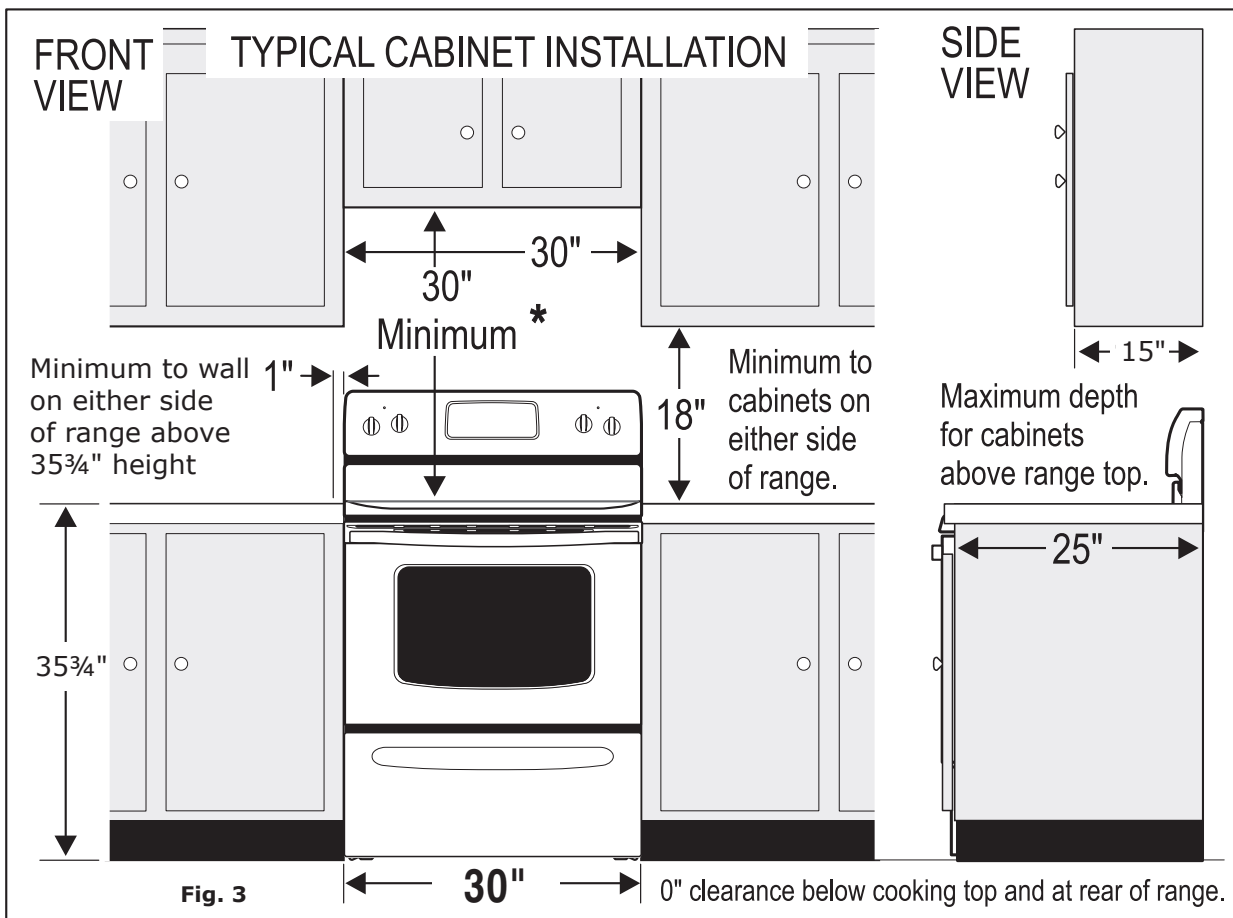
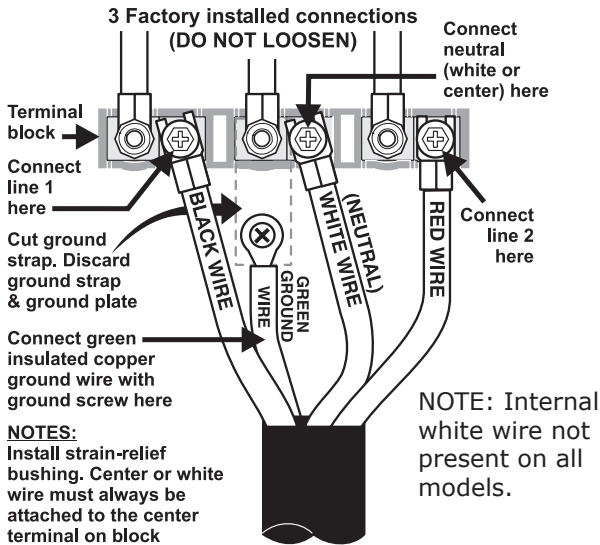

Fig. 3
Fig. 12
(4-Wire Connection Instructions - Refer to Fig.12) Before wiring the range review the suggested power source location drawing in Fig. 3. If connecting to a 4-Wire electrical system (new branch-circuit or mobile home requires 4-Wire connection):
4. Connect the ground wire (Green) lead with the eyelet to the frame of the appliance with the ground screw using the same hole in the frame where the ground screw was originally installed (See Fig. 12).
Before wiring the range, review the suggested power source location drawings in Fig. 3.